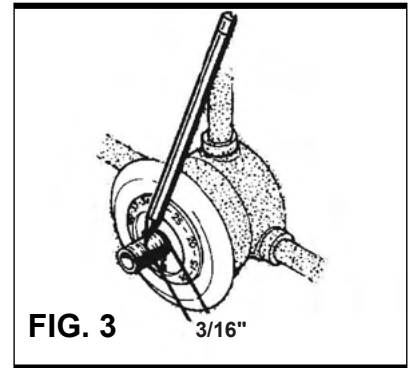

FIG. 3 $\frac{3}{16}$ "
9. Fit the threaded tube (9), and tighten onto cover. Place the cover plate (7) and the dial (11) onto the threaded tube (9). Make a cutting mark $\frac{3}{16}$ " from the dial face. Fig. 3 Remove the tube and cut it, taking care not to cut inside threaded end. Debur and replace.